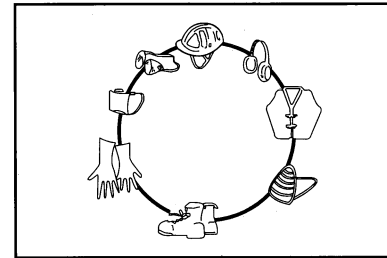

Figure1-22
- When operating or maintaining the loader, please wear safety hat which is made up of hard material, safety glasses, safety shoes, glistening coat, veil, earplugs and gloves. When scattering metal scrapes or cleaning the debris from air filter by hammer or compressed air, please wear safety glasses, hard hat and thick gloves. (Figure 1-22)